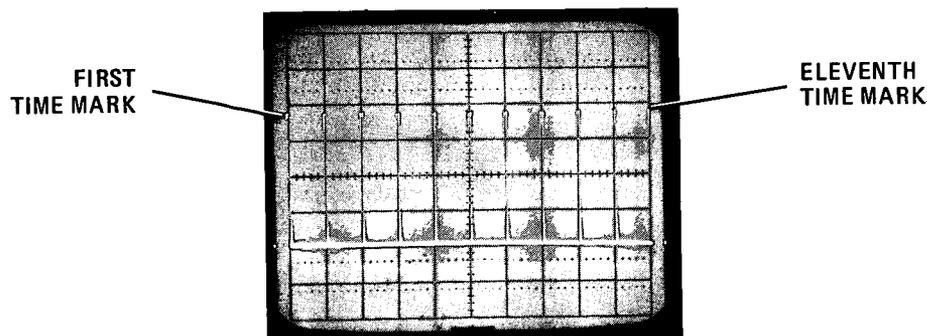

Figure 5-28. Time Mark Oscilloscope Display
- j. Adjust spectrum analyzer TRIGGER LEVEL to set first peak on left edge of oscilloscope graticule display (Figure 5-28). Adjust A16R15 1 MS to set eleventh peak on right edge of graticule display.